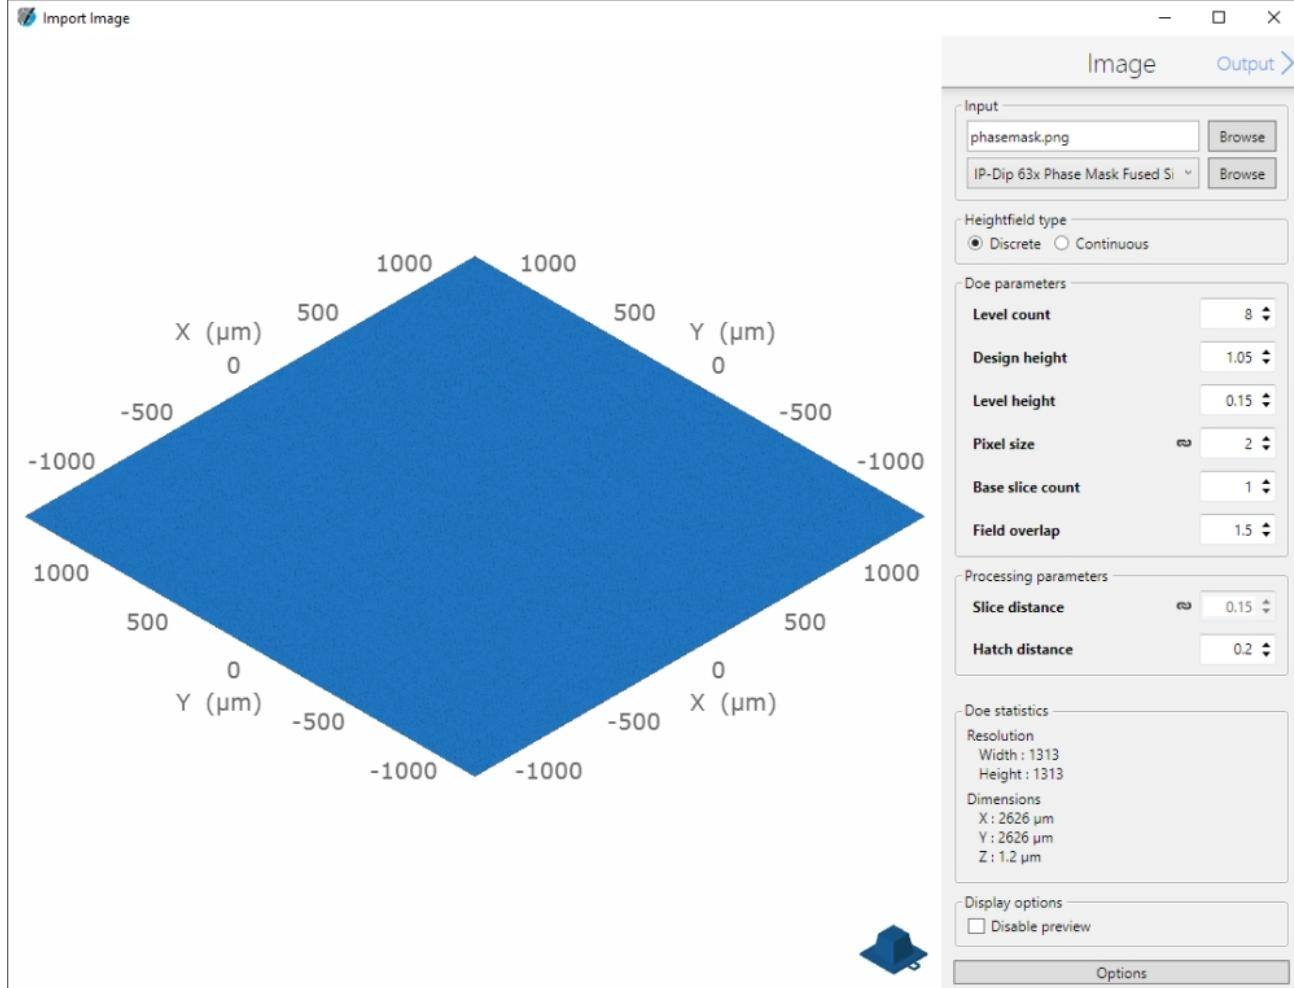

Figure 4: Import wizard for DOE printing [Height field type] Discrete.
Once the **phase mask** image from a image is created and is loaded into **DeScribe**, a limited number of **DOE parameters** are available. These can be set manually or are automatically defined by the selected recipe (Figures 4 and 5).
- **Level count** sets the number of discrete height values (Figures 4 and 6). Gray values imported from the phase mask will be binned correspondingly. For example, if the imported phase mask has 255 gray values, **Level count** must be set to 256 to represent all gray levels including the base layer (Figure 6-1). Setting **Level count** to 3 results in appropriate binning of several gray values (Figure 6-2). The level also determines the quality of the DOE. If too few levels are used, a centrosymmetric far-field pattern can result, whereas more levels break the symmetry as typically is desired. **Level count** is automatically set based on the input image.